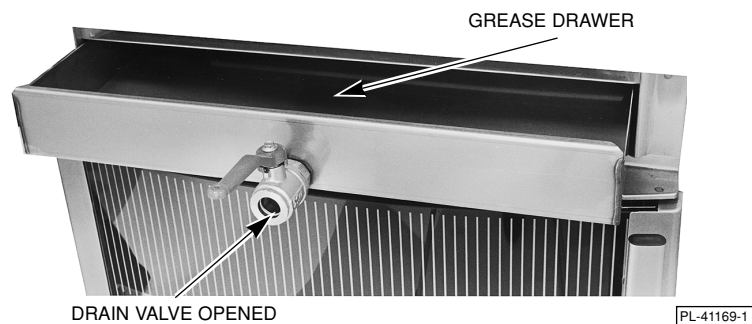

Fig. 8
1. Open door and slide grease drawer out about 5" (13 cm) (Fig. 8).
2. Provide a suitably large bucket or vessel under drain valve and open valve handle (Fig. 8).